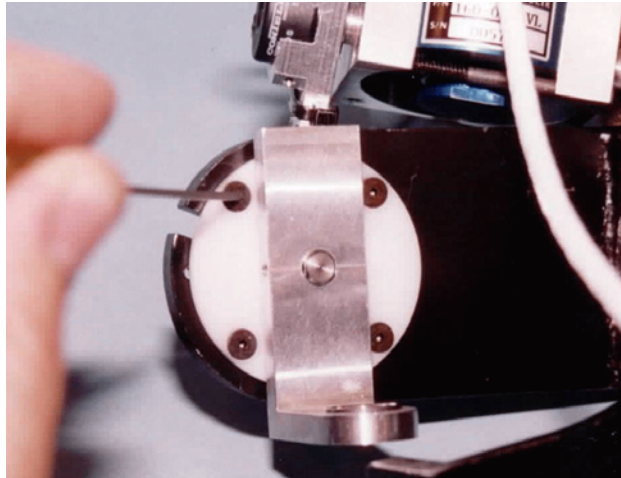

Figure 17.10- Secure the bushing to the bracket
9. Secure the rotary bushing to the left attachment bracket using four #4-40 x 3/8" FHSCS {1/16}, as shown in **Figure 17.10**. Check to be sure that the engraved arrow is still oriented upwards.